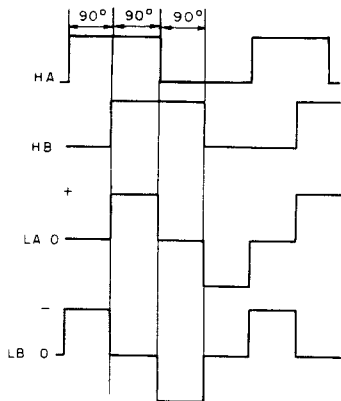

Fig. 4-12 Drive circuit waveforms
2. The position sensing signal produced by the Hall elements are each output to the block diagram position signal synthesizing circuit, and their waveforms are shaped as shown in Fig. 4-12.
3. The staircase waves are each input into the block diagram 4-phase drive circuit, and as shown in Fig. 4-12, LA and LB alternate back and forth in a 90° duty cycle (voltage) to turn the motor.